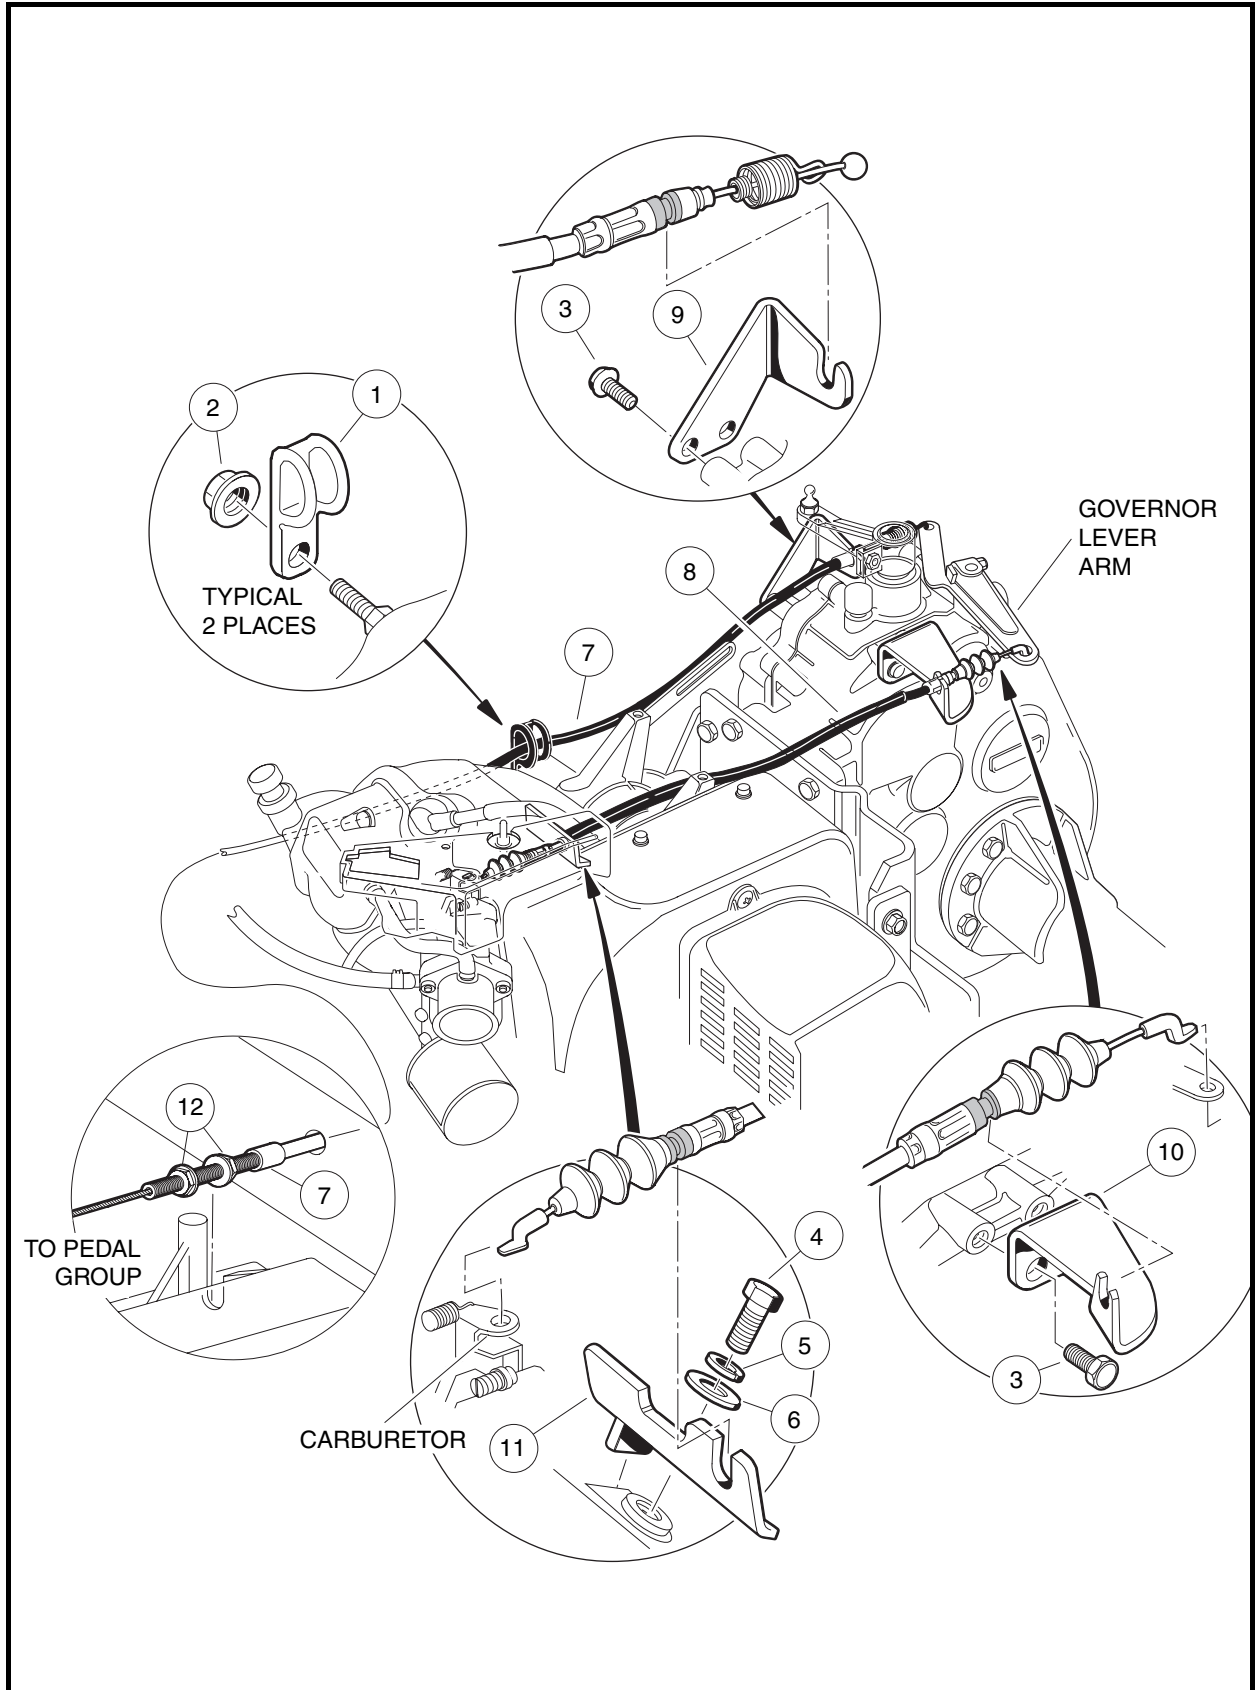

Figure 14-3 Governor and Accelerator Cables
4. Release the governor cable (8) from brackets (10 and 11) **(Figure 14-3, Page 14-7).**
5. Remove the ends of cable (8) from the governor lever arm and the carburetor and remove the cable from the vehicle.
1. Insert the ends of cable (8) into the respective holes on the carburetor and the governor lever arm **(Figure 14-3, Page 14-7).**
2. Press on the cable (8) to snap it in place in brackets (10 and 11).
3. Loosen the two lock nuts (12) that secure the accelerator cable to the vehicle **(Figure 14-3, Page 14-7).**
4. Release the accelerator cable housing from bracket (9).
2. Connect the end of the accelerator cable (7) to the governor lever arm (**Figure 14-3, Page 14-7**).
3. Press on the cable (7) to snap it in place in bracket (9).
4. Adjust two lock nuts (12) to remove excess slack in the accelerator cable. Finger-tighten the two lock nuts.
6. To **reduce** RPM, adjust the two lock nuts (12) to move the cable housing toward the rear of the vehicle until the specified RPM is reached (**Figure 14-3, Page 14-7**). To **increase** RPM, adjust the two lock nuts (12) to move the cable housing forward until the specified RPM is reached.